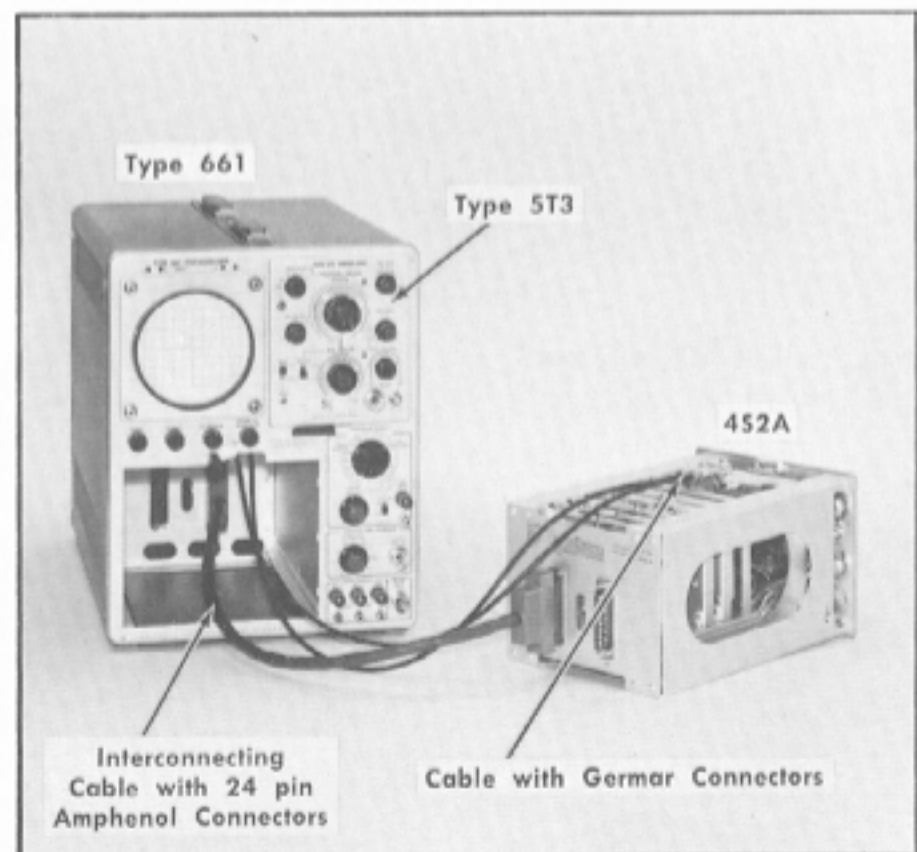

Fig. 6-5. Location of cables for operation of 4S2A outside the Type 661.
a. Connect the Type 4S2A Power Plug, P1, to the mating jack on the Type 661, using the interconnecting cable with 24 pin Amphenol connectors. See Fig. 6-5.